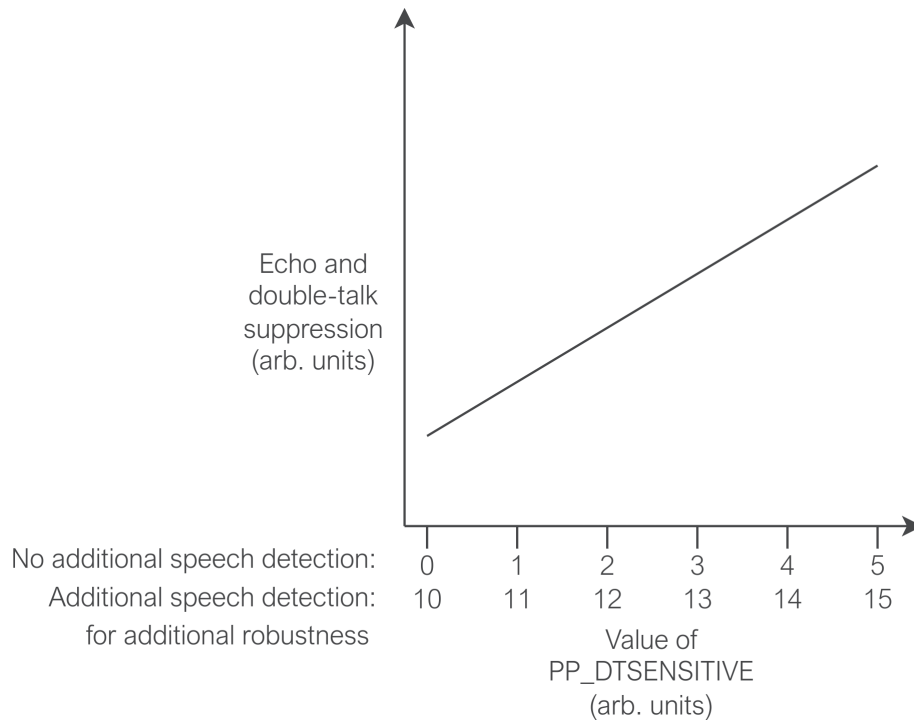

Fig. 4.1: Illustration of relationship between *PP\_DTSENSITIVE* value and echo suppression
- *PP\_DTSENSITIVE*: *PP\_DTSENSITIVE* allows some control over the balance struck between double-talk performance and echo suppression, including the use of an optional near-end speech detector. This is summarised in Fig. 4.1; as echo suppression increases, double-talk performance will tend to decrease as more near-end is suppressed.